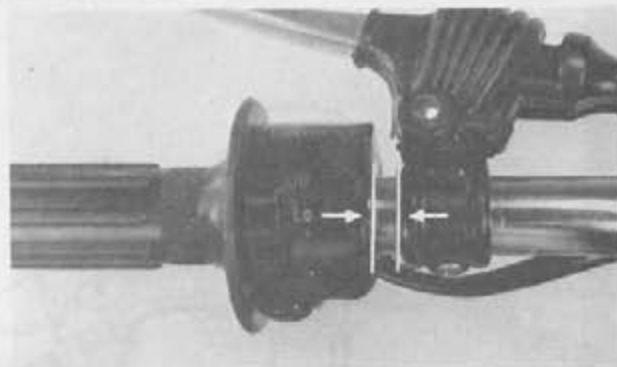

Fig. 4-39
5. Install the handle bracket clearance as shown Fig. 4-39.